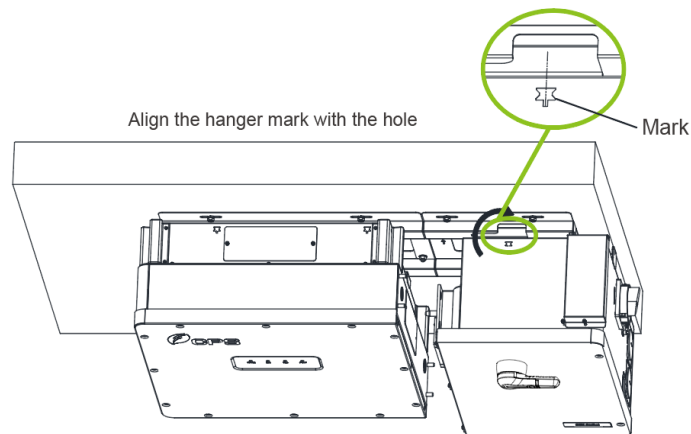

Figure 3-15 Wire Box Position
- b. Align the mark on the wire box with the bracket (Figure 3-15) and hang the wire box on the right side of the wall bracket: